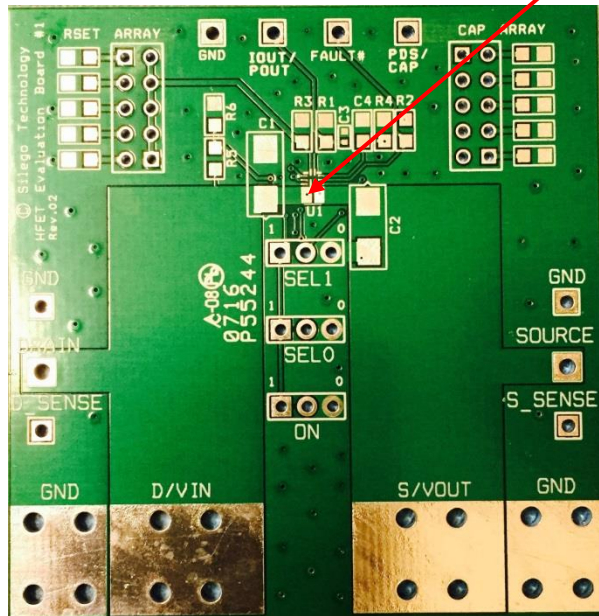

Figure 3. SLG59H1005V Evaluation Test Board
- 2.2. The VIN and VOUT pins carry significant current. Please note how the VIN and VOUT pads are placed directly on the power planes in Figure 3, which minimizes the RDS(ON) associated with long, narrow traces. The VIN and VOUT pins dissipate most of the heat generated during high-load current condition. The layout shown in Figure 3 is illustrating a proper solution for heat to transfer as efficiently as possible out of the device.